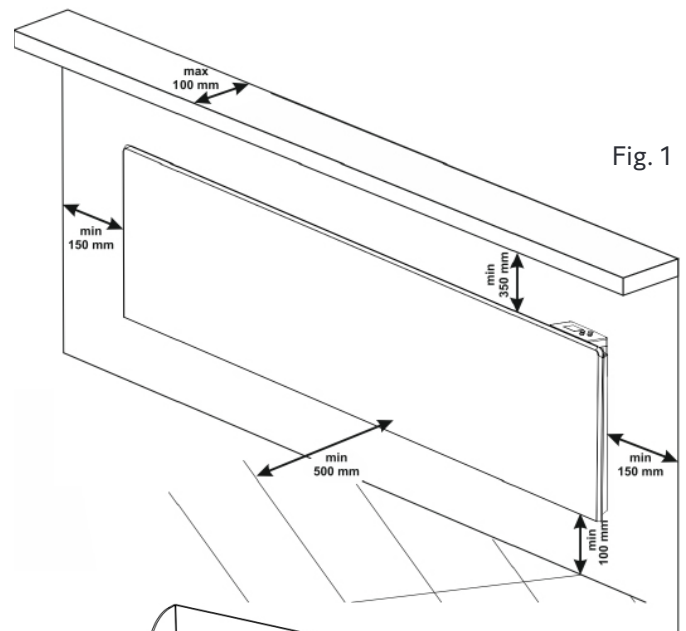
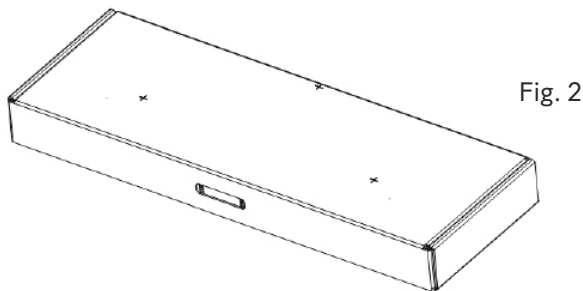
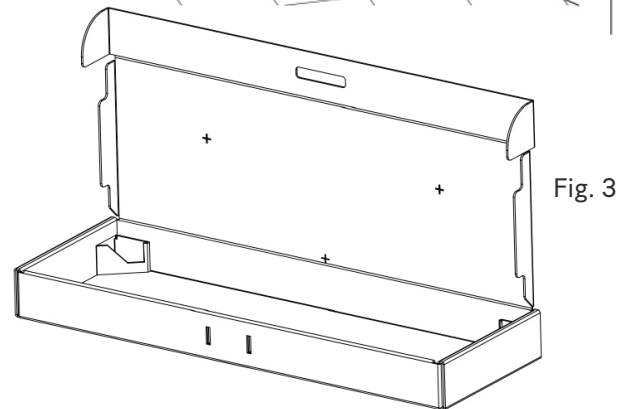

Fig. 1
Fig. 2
Fig. 3
- Select the location and mark up its three points for drilling, then drill using an $\varnothing 6$ mm drill bit at the marked places on the wall. (Fig. 1). As an aid, use the prepared holes in the packaging, marked + (Fig. 2).
- Select the position on the wall according to the dimensions stated in Figure 1. Open the box and place it against the wall (Fig. 3). Then transfer the marked holes to the wall.